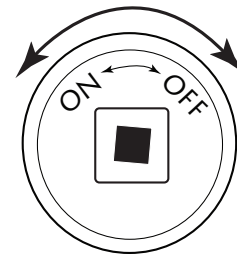

Fig. 7. Key Valve Face
1. Insert key into shut-off valve and secure into square end (See Figs 7 & 8).